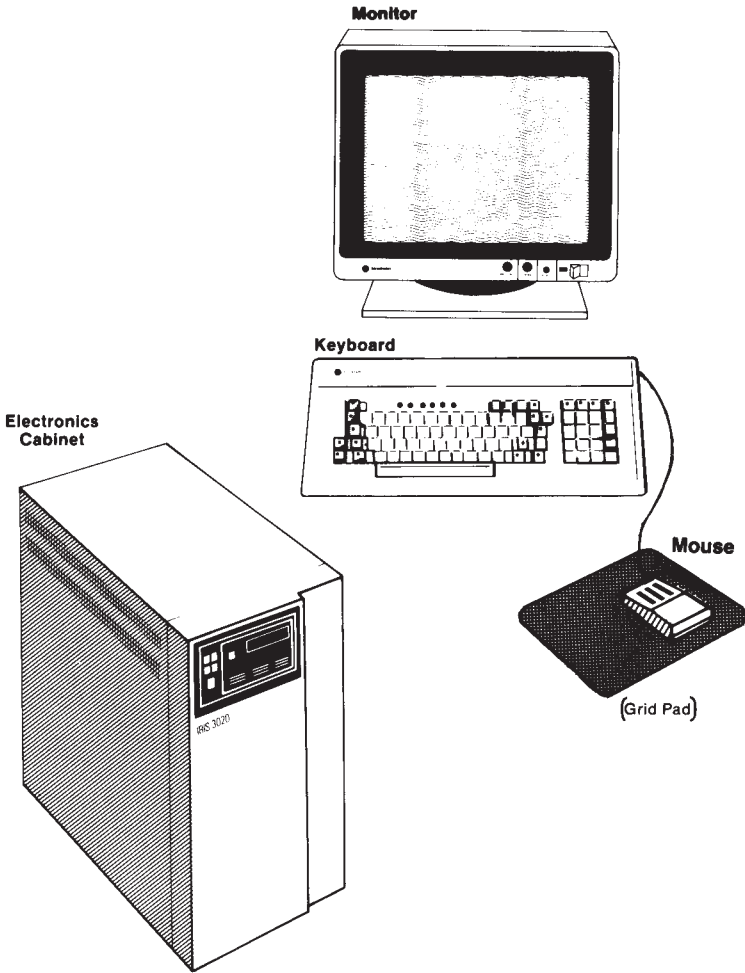
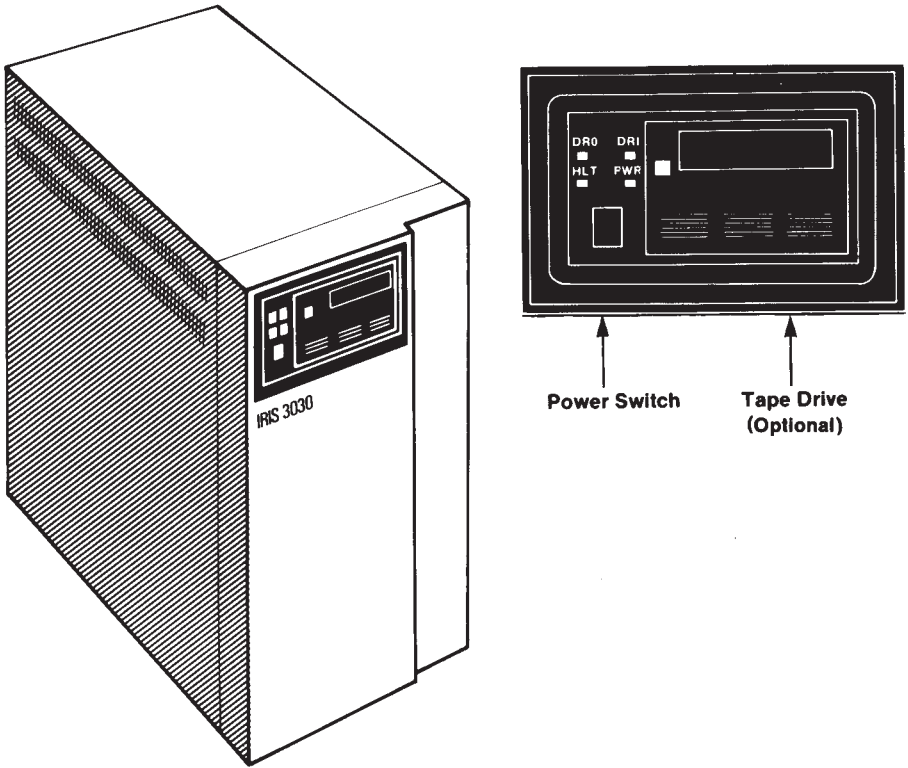
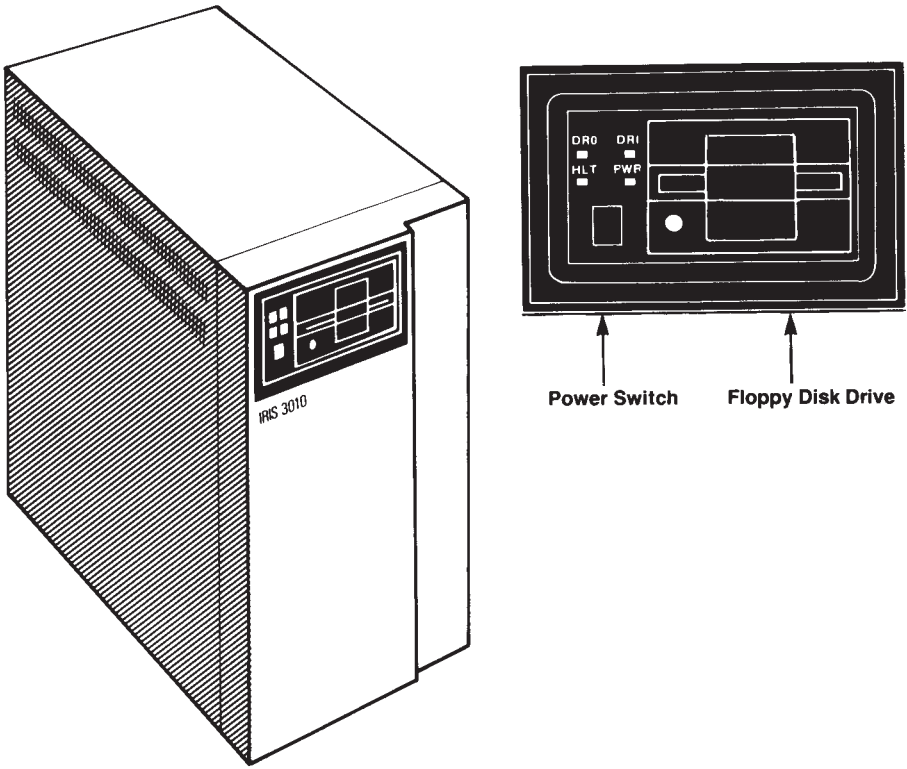

Figure 2-1: IRIS Series 3000 System
Figure 2-2: IRIS 3030 Cabinet Front Panel
Figure 2-3: IRIS 3010 Cabinet Front Panel
- The *electronics cabinet* for the standard configuration of the IRIS series 3000 is a floor-standing unit with a 20-slot backplane, a disk drive, and a power supply (see Figure 2-1). The cabinet uses forced-air cooling and is mounted on casters. A quarter-inch cartridge tape drive (internal) or a half-inch streaming tape drive (external) is optional on the IRIS workstation (see Figure 2-2). A floppy disk drive is standard on the IRIS terminal (see Figure 2-3). See Chapter 6 for disk specifications and Chapter 7 for tape specifications.